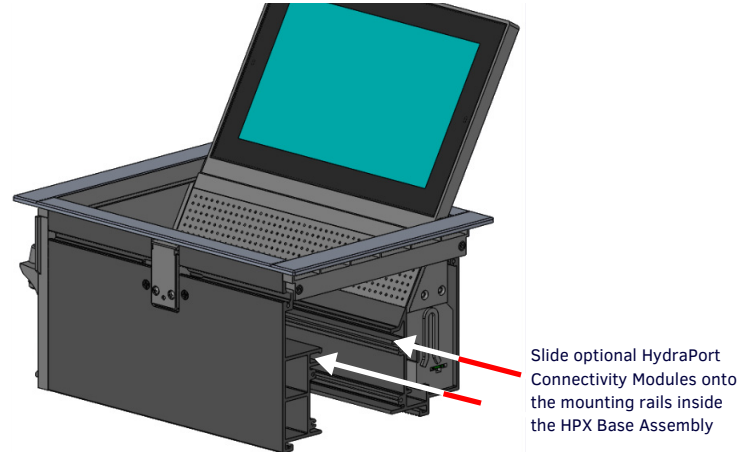

FIG. 2 INSERTING MODULES INTO THE HPX BASE ASSEMBLY
3. Slide the pre-terminated modules one at a time onto the mounting rails. Note the orientation of each module: the faceplate on each HPX module has a tab on one side and a matching notch on the other. These tabs and notches allow the modules to interlock when installed. Ensure that the modules are oriented consistently, so that the faceplates are stacked and interlocked when the modules are installed on the mounting rails (see FIG. 2).